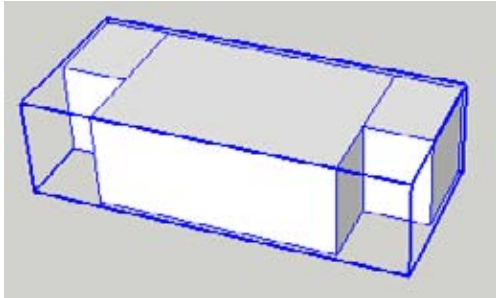

Figure 2-84
4. Make these three boxes into a group (select them all, right-click on any face, and choose Make Group from the pop-up menu). The resulting group is surrounded by a bounding box (Figure 2-84).